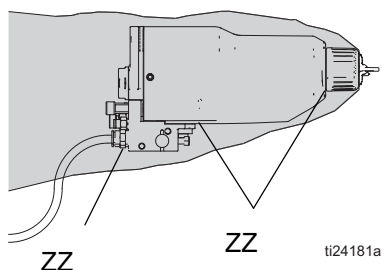

FIG. 20 Check for Fluid Leakage
During operation, periodically check all openings of the gun shroud (ZZ) for the presence of fluid. See FIGURE 20. Fluid in these areas indicates leakage into the shroud, which could be caused by leaks at the fluid tube connections or fluid packing leakage.